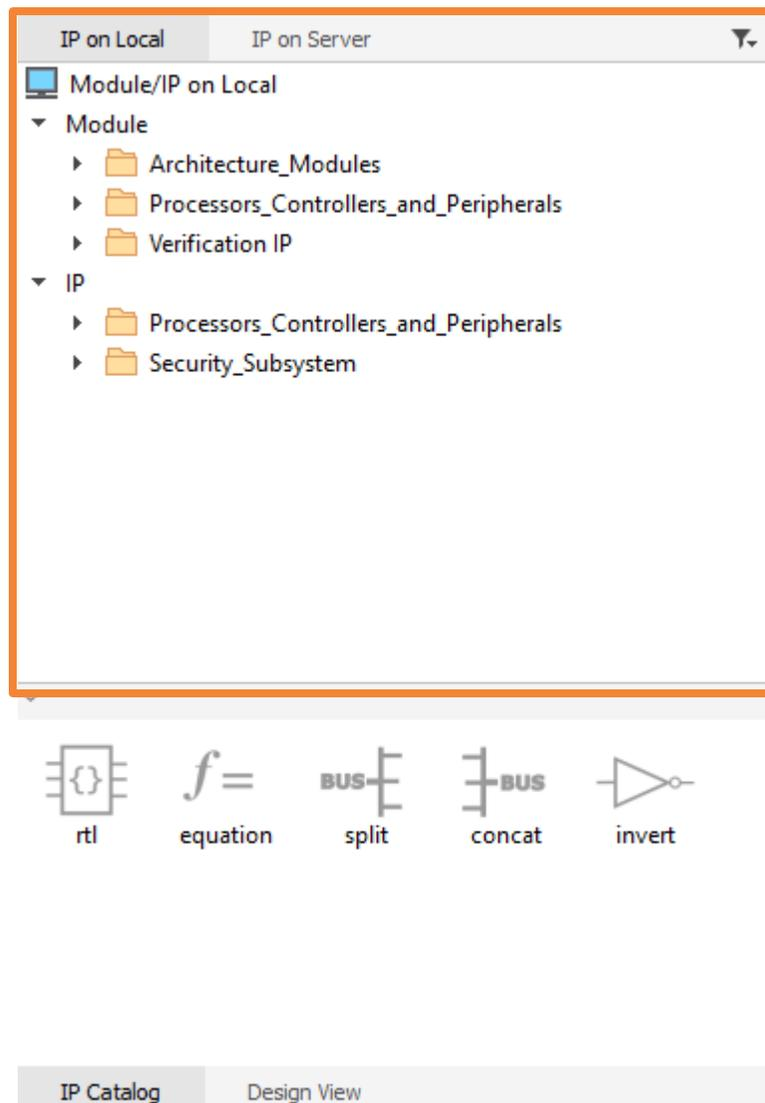

Figure 2.14. IP Catalog
After starting a Propel Builder project, you can add modules by dragging them from the IP Catalog view to the Schematic view. The IP Catalog view comes with a large variety of modules for common use and some glue logic modules as well, which can be found from the **IP on Local** tab (Figure 2.14). Click the **IP on Server** tab to find and download more modules for specialized use.
1. (Optional) From the Propel Builder GUI **IP Catalog** area (Figure 2.14), choose the **IP on Server** tab. Select a desired IP. Click the  **Install** button. After the IP is installed successfully, the new IP can be shown in the **IP on Local** tab.